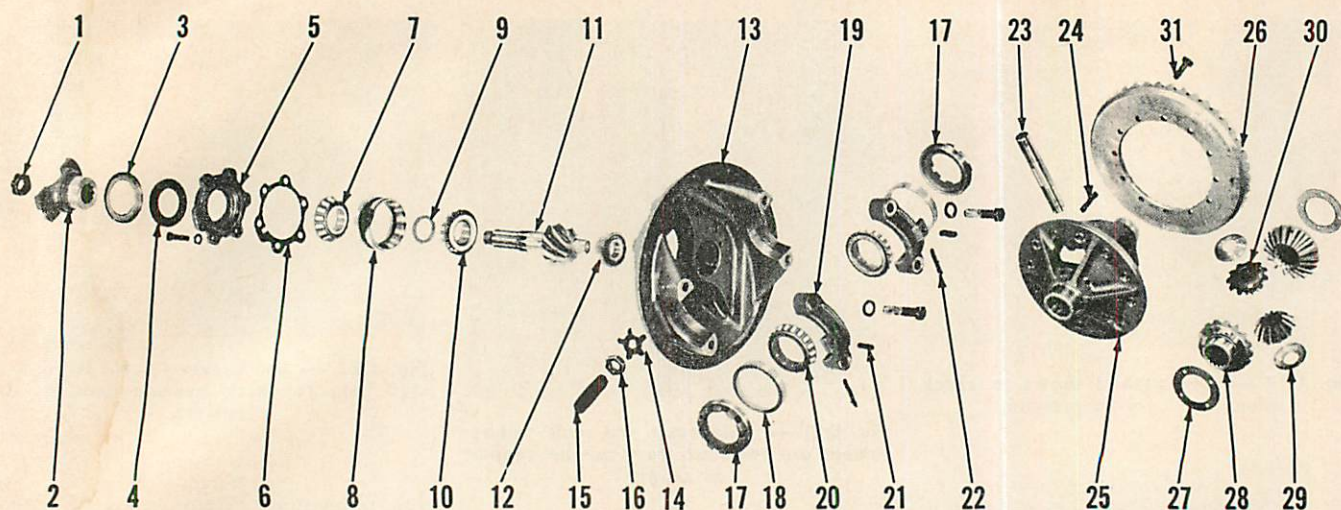

Fig. O24 — Exploded view of the differential and carrier assembly used in front drive axle of all four-wheel drive models.
37. OVERHAUL. With differential and carrier removed as outlined in paragraph 36, disassemble unit as follows: Straighten tab of locking washer (14—Fig. O24) and remove lock nut, locking washer and thrust screw (15). Punch mark carrier bearing caps (19) so they can be reinstalled in original position, then remove cotter pins and the adjusting nut lock pins (21). Cut lock wires and remove the carrier bearing caps. Lift differential from carrier and keep bearing cups (18) identified with their bearing cones (20). Bearing cones can now be removed from differential case if necessary. Unbolt and remove bevel ring gear from differential case if necessary to renew gear. Drive pinion pin (shaft) lock pin (24) out of differential case and remove pinion pin (23), pinions (30), side gears (28) and thrust washers (27 and 29) from differential case.